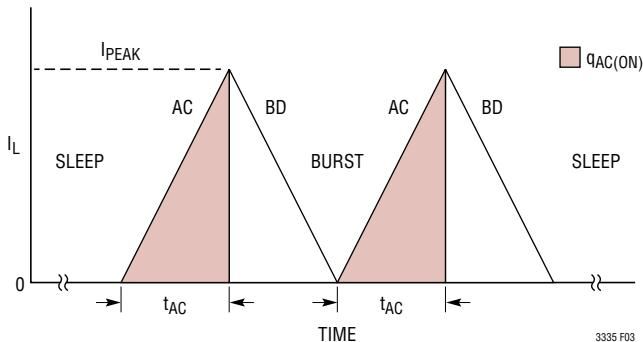

Figure 3
The LTC3335 integrates a precision coulomb counter to monitor the accumulated charge that is transferred from the battery whenever the buck-boost converter is delivering current to V_{OUT} . The buck-boost converter operates as an H-Bridge for all BAT/ V_{OUT} conditions when not in sleep (see Figure 3). Switches A and C turn ON at the beginning of each burst cycle. Inductor current ramps to I_{PEAK} and then switches A and C turn OFF. Switches B and D then turn ON until the inductor current ramps to zero (I_{ZERO}). This cycle repeats until V_{OUT} reaches the sleep threshold.
If I_{PEAK} and the switch AC(ON) time (t_{AC}) are both known, then the BAT discharge coulombs (shaded area in Figure 3) can be calculated by counting the number of AC(ON) cycles and multiplying by the charge per AC(ON) cycle given in Formula (1) below: